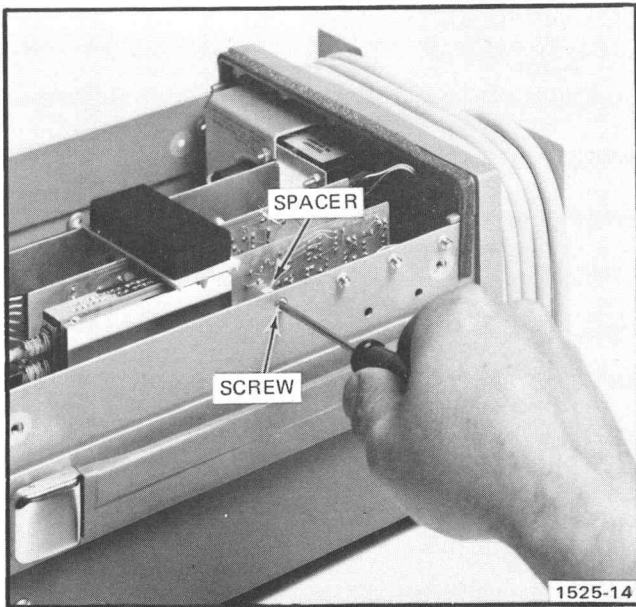

Fig. 5-9. ECG Board securing.
5. CHECK—The screw and spacer securing the ECG circuit board are tight. See Fig. 5-9.